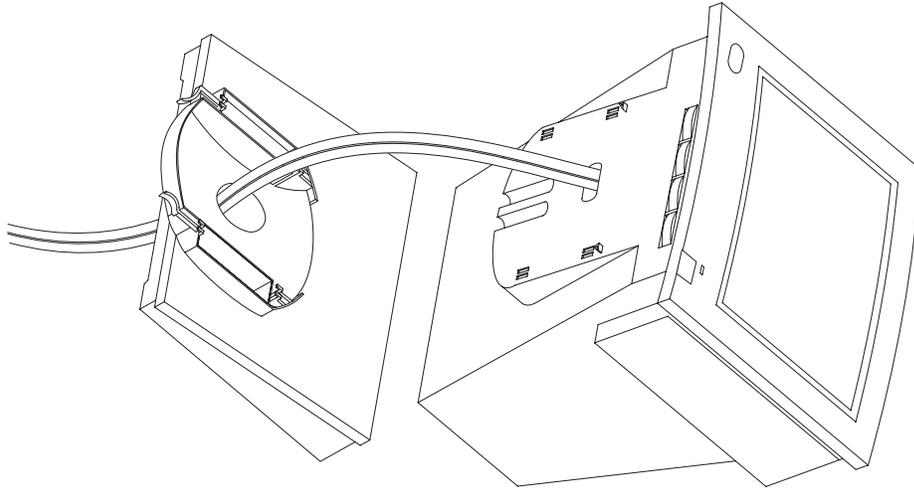

Figure 31. Location of the power cord and video cable for a wedge-mounted monochrome CRT
4. Unlatch the latching tabs, and slide the wedge mount rearward to disconnect it from the CRT (see Figure 31 on page 30).
5. Carefully pull the CRT power cord and CRT signal cable through the wedge mount (see Figure 31).